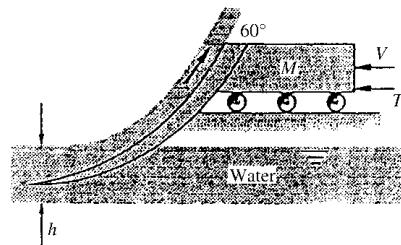

Fig. P3.108
- 3.108** A rocket sled of mass  $M$  is to be decelerated by a scoop, as in Fig. P3.108, which has width  $b$  into the paper and dips into the water a depth  $h$ , creating an upward jet at  $60^\circ$ . The rocket thrust is  $T$  to the left. Let the initial velocity be  $V_o$ , and neglect air drag and wheel friction. Find an expression for  $V(t)$  of the sled for (a)  $T = 0$  and (b) finite  $T \neq 0$ .